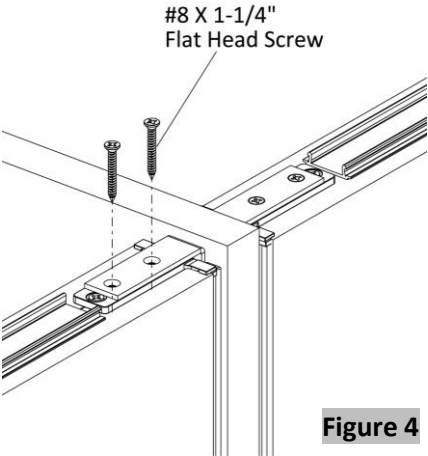

Figure 4
- 8. Follow **Steps 5** and **6** to install the other standard panel, (Figures 4 and 5).